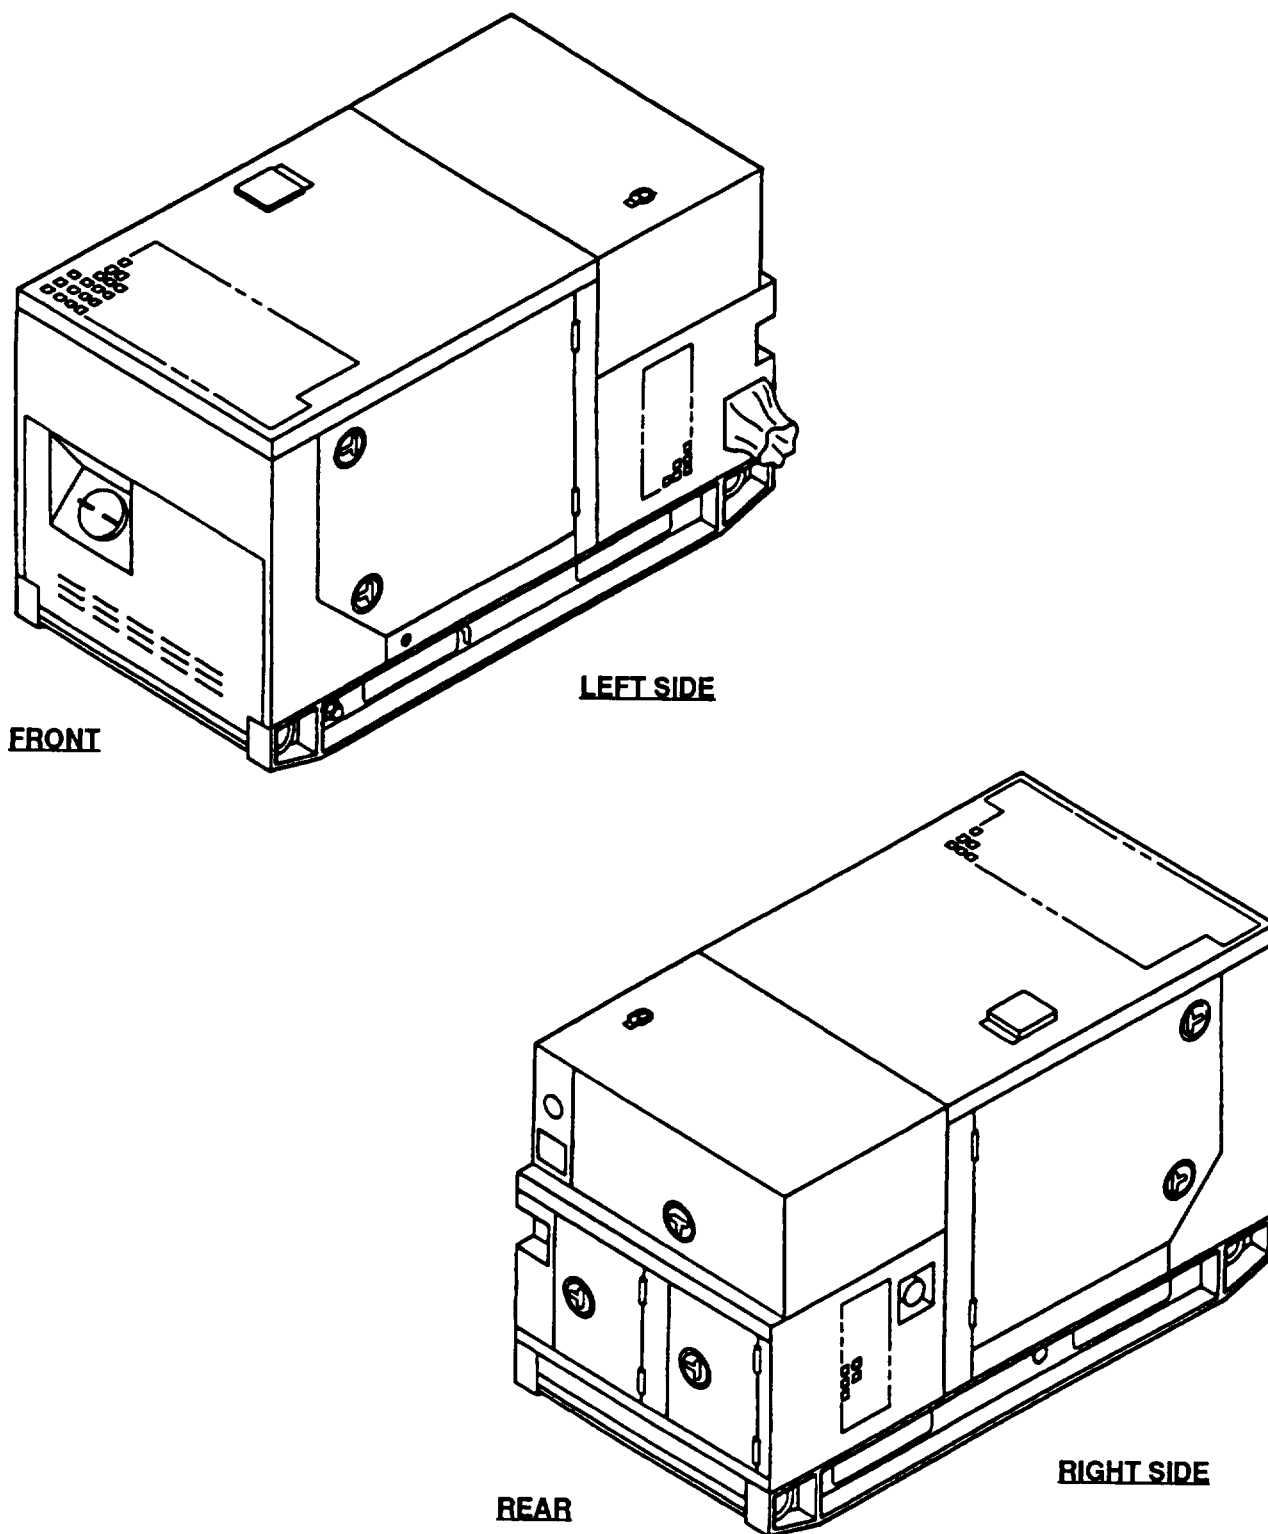

FIGURE 1-1. Generator Set, 10 kW, Tactical Quiet
This manual contains Unit, Direct Support and General Support maintenance instructions for the Tactical Quiet (TQ), 10 kW 60 and 400 Hz Generator Sets (FIGURE 1-1), herein referred to as generator sets. Included are descriptions of major components and their functions in relation to other components.
The generator sets, models MEP-803A and MEP-813A, (FIGURE 1-1) are fully enclosed, self-contained, skid-units, The generator sets consist of a diesel engine, brushless generator, excitation system, speed governing system, fuel system, 24 VDC starting system, control system and fault system.